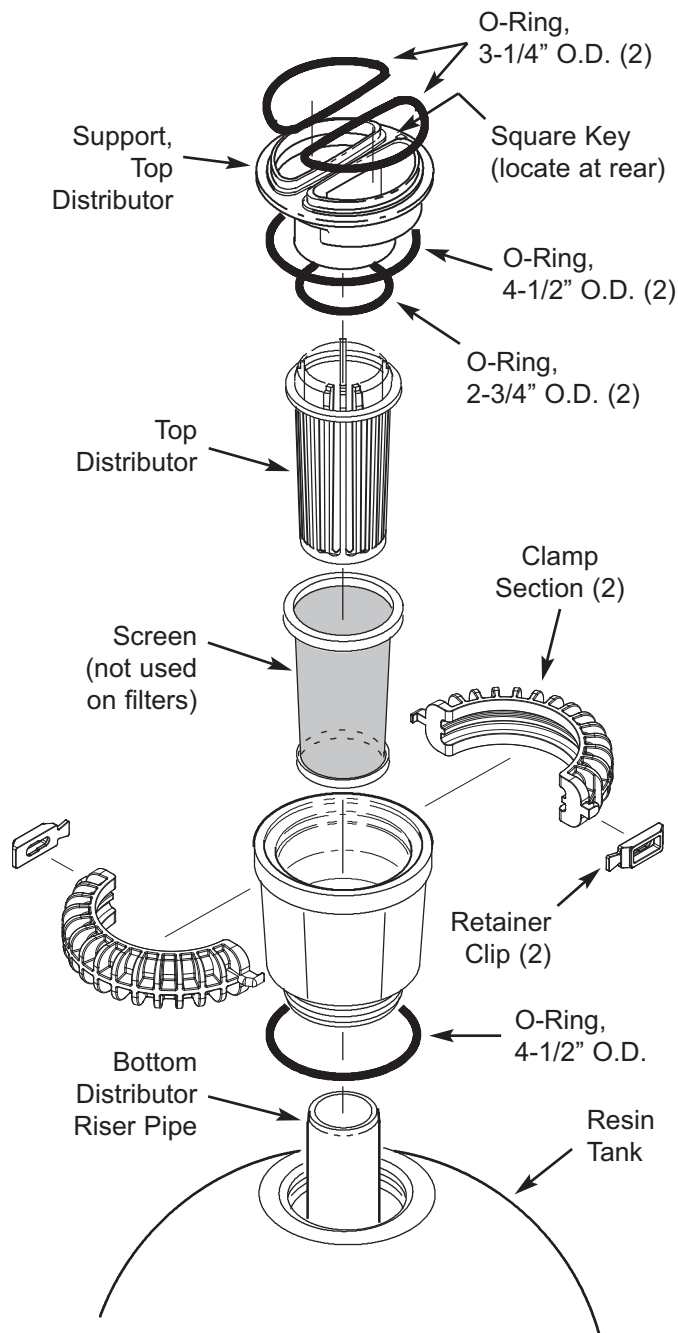

FIG. 2
10. From the parts box, obtain the tank adaptor and a 4-1/2" O.D. o-ring seal. Lubricate the o-ring and place in the groove at the bottom of the tank adaptor (Figure 2).
12. Referring to Figure 2, do the following:
13. Lower the valve assembly onto the tank adaptor and support (Figures 2 and 3). The valve must be lowered straight down or the o-rings will slip out of place. Install the two large clamps, securing with the two retainers. **Be sure the clamps and retainers are secured in place.**